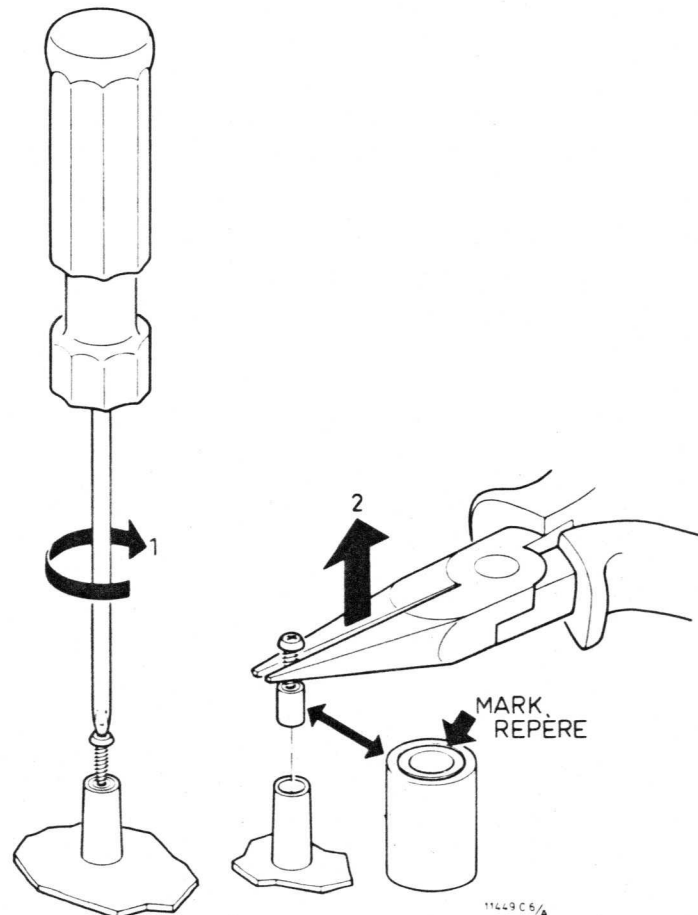

Fig. 4
6. Bearings 176 or 179 (Fig. 4 and 9)